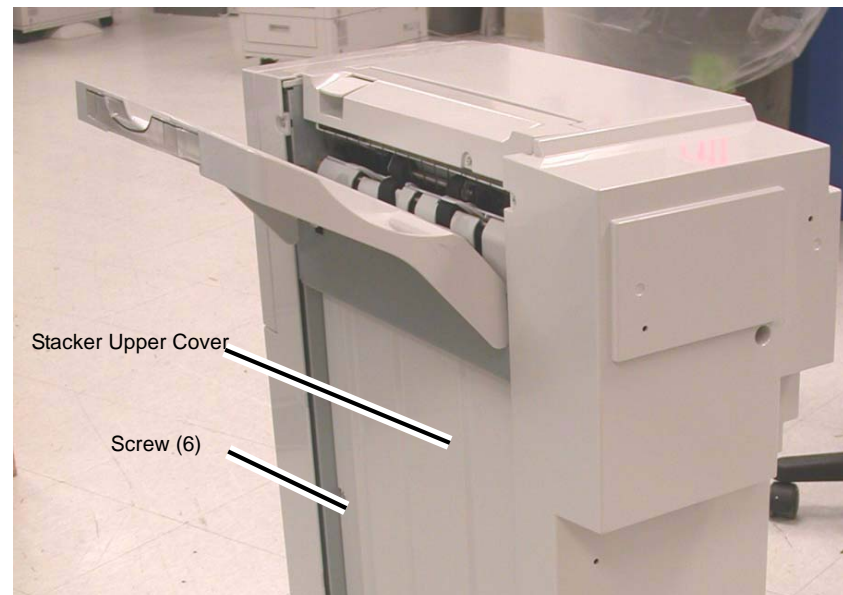

Figure 1 Removing the Stacker Upper Cover
4. Remove the Screws (6) (Figure 1).